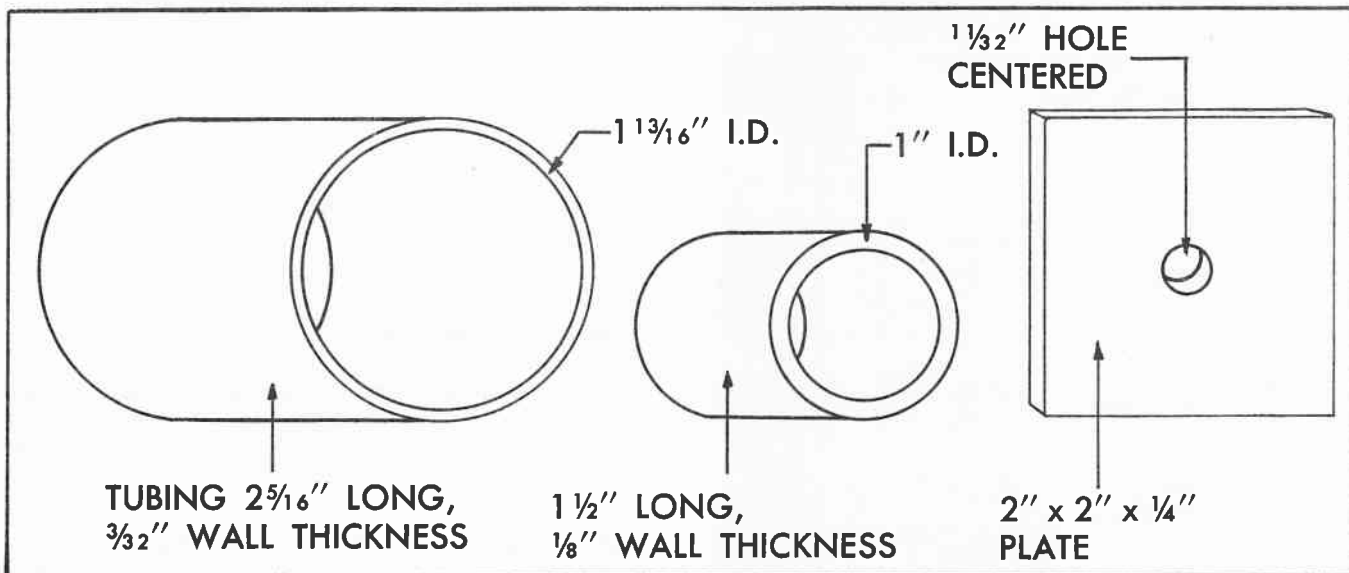

Fig. 9 Installation Tools For 1954 Compressor Seal Replacement
If you have not already made the tools for installing the compressor shaft seal explained in the October-November 1954 issue of the Service Craftsman News, and also in the March 1955 issue of this same publication, then make the three tools as shown in Fig. 9. Then install seal as follows:
19. Complete the installation of the seal and snap ring by placing the 1" ID spacer into position and install the 2 x 2 x 1/4" plate and the 5/16-24 x 1-1/4" hex head bolt and nut. Holding the head of the hex head bolt, tighten the nut so that the back plate and spacer forces the snap ring into the groove on the compressor shaft (see the 1954 October-November issue of the Service Craftsman News, page 79, Fig. 9).